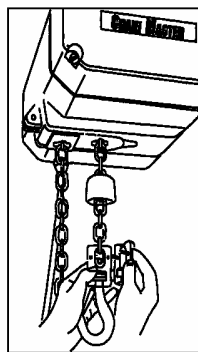

Figure 13 (step 4)
4. Attach rubber block onto chain end and assemble load hook (Figure 13). Please consider the torques in table Table 4 on page 28.